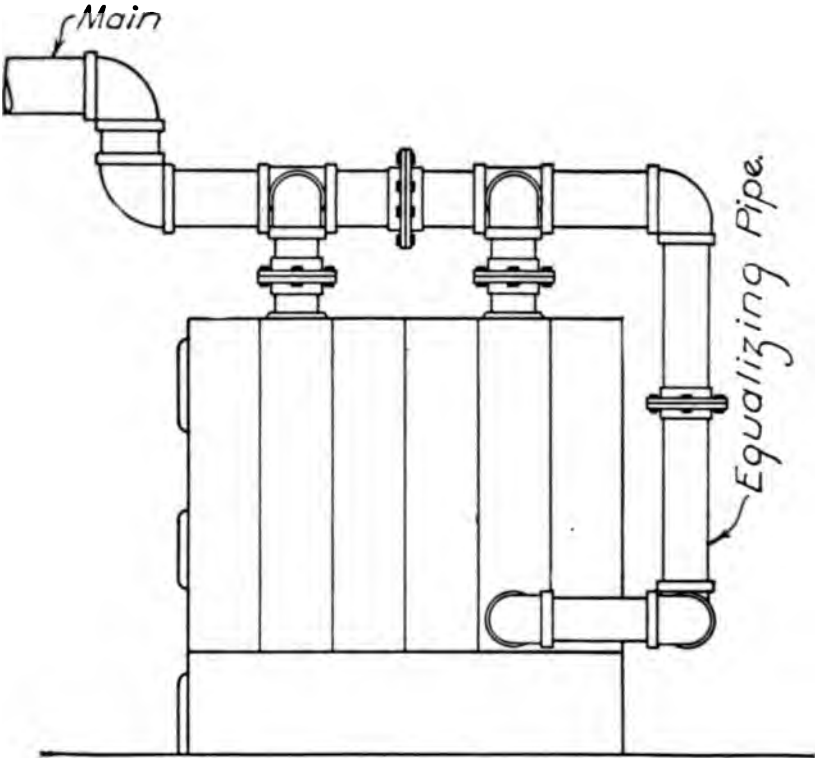
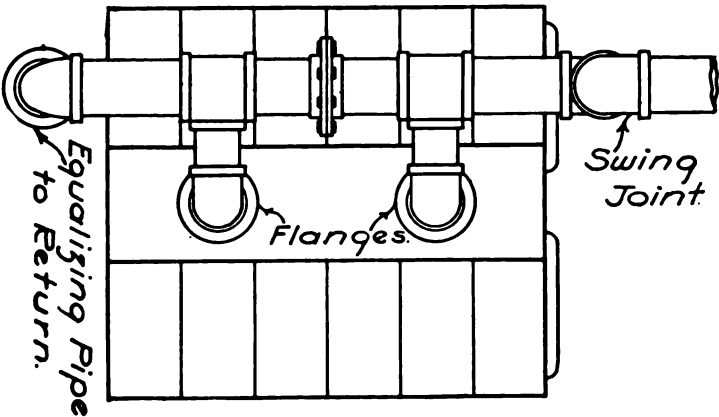

Fig. 44.—Showing Steam Header on Boiler.—Elevation.
Fig. 45.—Showing Steam Header on Boiler.—Plan.
A. The use of a header is good practice, particularly on sectional boilers having several steam outlets, and when properly constructed will prevent siphonage of the water into the mains and also provides for every movement of the pipe in expanding and contracting. A header filters the steam supply and insures dryer steam in the heating system. Fig. 44 shows an elevation of a steam header properly connected and Fig. 45 a plan of the same.
header and equalizes the pressure on the return. An equalizing pipe of this character is shown in the illustrations, Figs. 44 and 45.